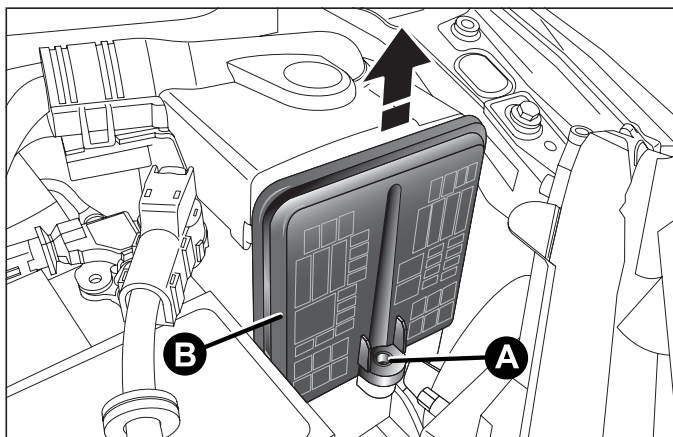
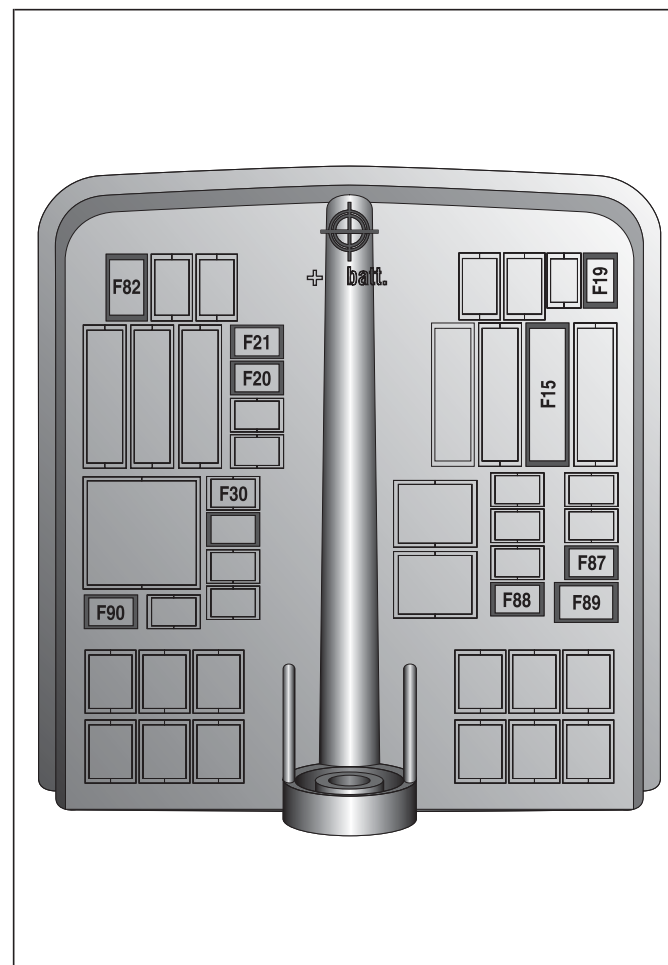

fig. I 43
fig. I 44
- undo the screw A fig. I 43, remove the cover B fig. I 43 pulling upwards. The number identifying the electrical component corresponding to each fuse is on the cover fig. I 44. After replacing the fuse, make sure you close cover B on the fusebox.